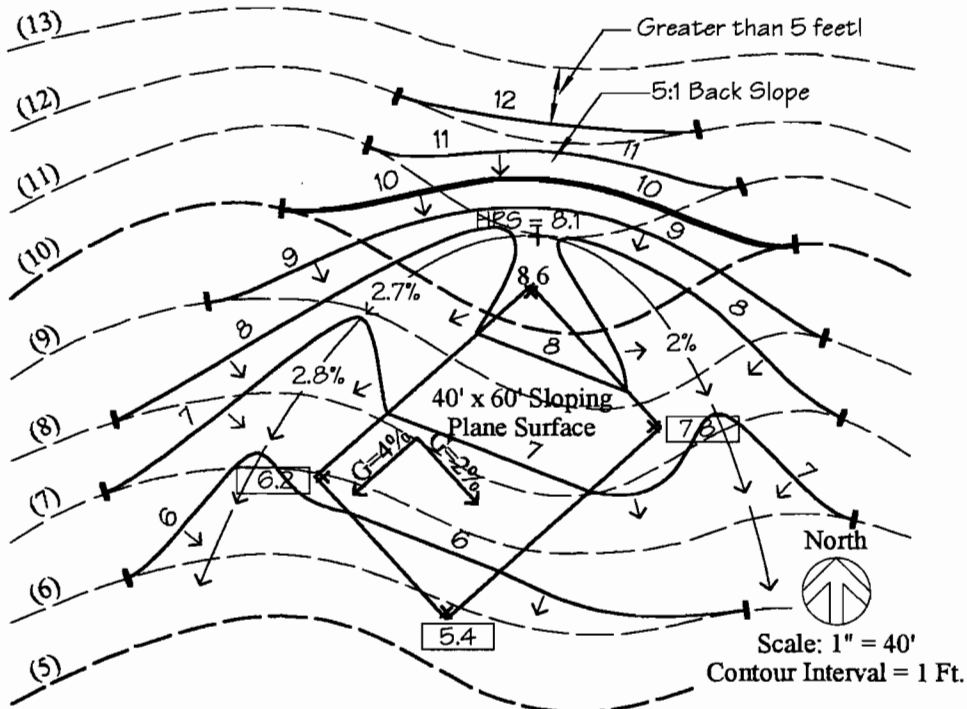

Figure 4-26. Completed Horseshoe Swale
Step 8. Grade the back slope and front slope areas to “catch up” to the existing grades as shown in Figure 4-26.
Step 9. Lastly, complete the horseshoe swale by numbering all revised contours, adding tick marks at the points where they rejoin existing contours, drawing every 5th contour heavier, and add any other information, such as flow arrows and grades along the flow line. The completed solution of the horseshoe swale for a sloping plane surface is shown in Figure 4-26.